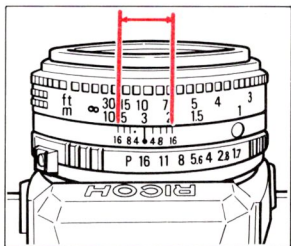

Fig. 59
1. A depth of field indicator is engraved on every lens. When a 50 mm standard lens is set to f-16 and focused at a distance of 3 meters, the depth of field indicator is the scale of numbers on each side of ↓ mark, ranging from 16 to 16 (about 2m to 8m). Subjects in this distance range will be in good focus. (Fig. 59)